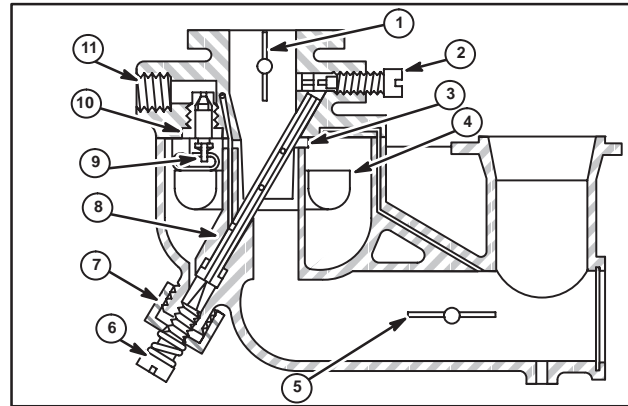

Fig. 143
6. Screw in emulsion tube (8) with Tool #19280, Carburetor Screwdriver, being careful that emulsion tube tip enters recess in upper body, Fig. 143. Tighten emulsion tube securely.